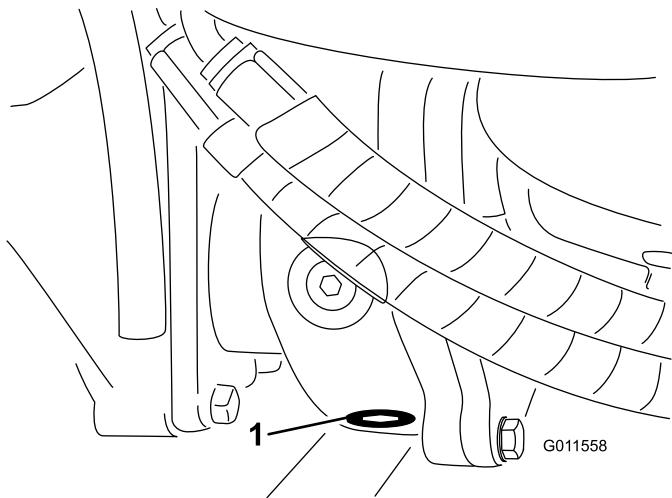

Figure 92
5. Clean the area around the drain plug on the bottom of the gear box (Figure 92).